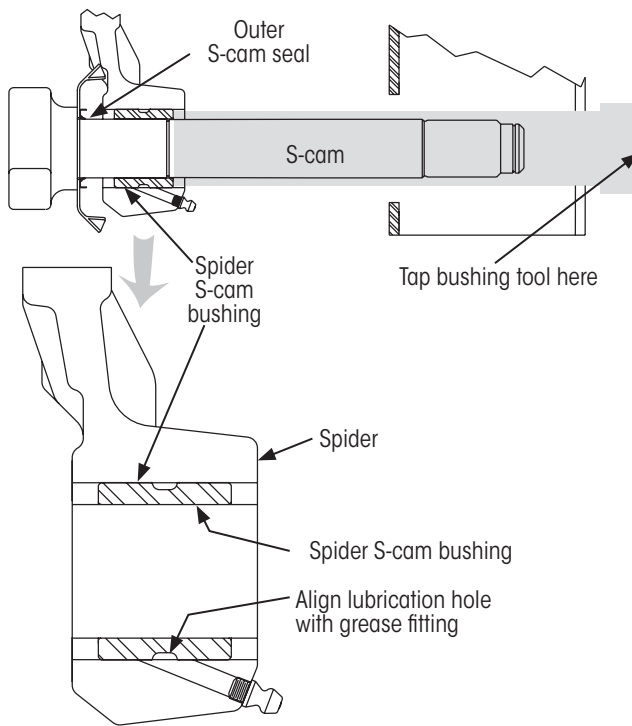

Figure 21: Spider S-cam bushing installation
3. Use the bushing tool (Figure 15) to **install** the spider S-cam bushing into the spider (Figure 21).
4. **Tap** on the end cap of the bushing tool with a hammer until the lubrication hole in the bushing aligns with the grease fitting in the spider (Figure 21). When aligned, remove the bushing tool.